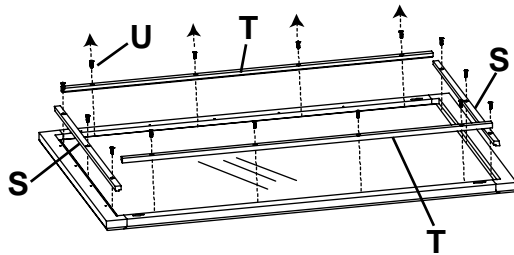

Fig. 1
1. To finish the Mirror Assembly (Ab), you must first lay it face-down on a clean, protected surface. Remove the #6 x 5/8" Philtruss Screws (U), the Short Mirror Support (S), Long Mirror Support (T) and set aside. Carefully lift the Mirror (B) and put it safely away. Finish the Mirror Frame, Short Mirror Support and Long Mirror Support. After the finish dries, replace the Mirror and attach the Short Mirror Support (S), the Long Mirror Support (T) with #6 x 5/8" Philtruss Screws (U). See Figures 1, 1a and 1b.